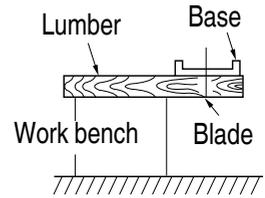

Fig. 17
11. Prepare a work bench (Fig. 17)